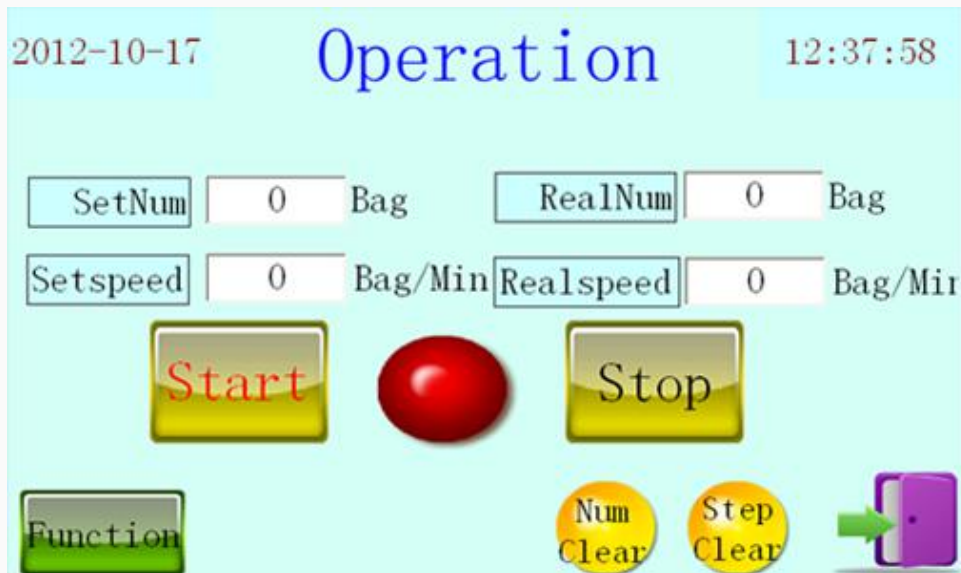

Figure 22
6.2.12 check all action and click "" is to return to" menu "interface first term dialog interface click" run scenes "key, enter the" running scenes "interface (see figure 22).